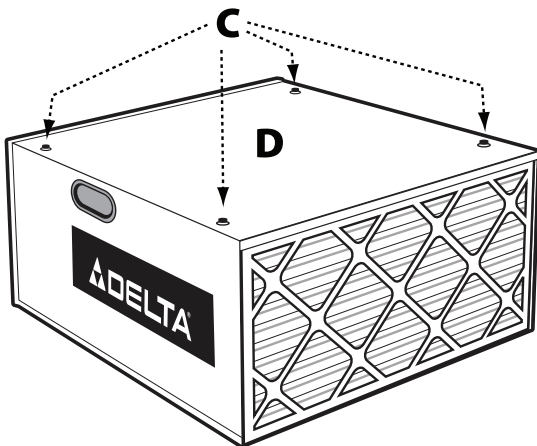

FIG. 5
2. Use a flat blade screwdriver (not supplied) to remove the four screws (C) Fig. 5 from the top of air cleaner (D).